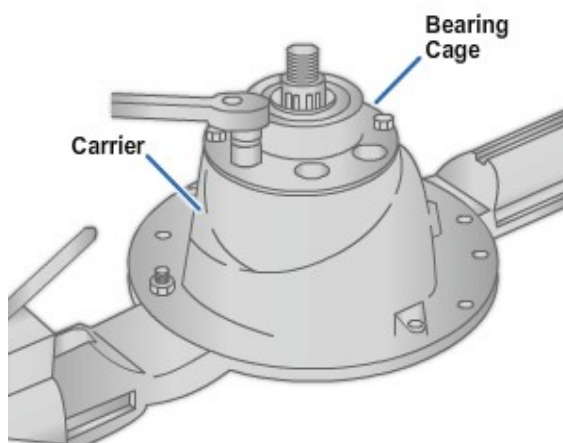

Figure 8-76 – Bearing cap removal.
4. Remove the fasteners that retain the bearing cage in the center in the carrier (*Figure 8-76*).